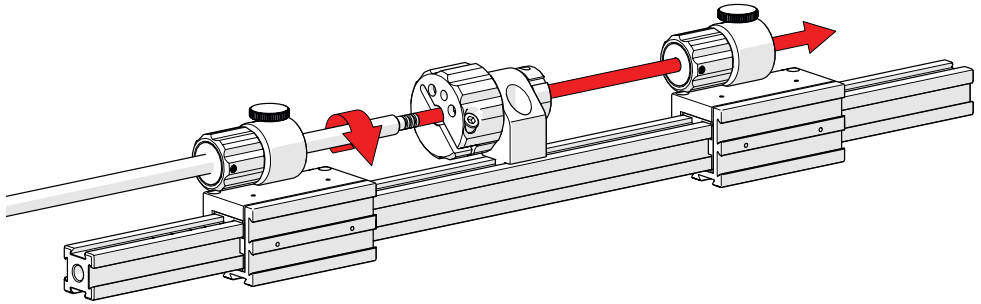

Fig. 133 - Screw leadscrew into place
4. Screw the leadscrew into the first slider, then the main knob and finally the 2nd slider assembly (*Fig. 133*).